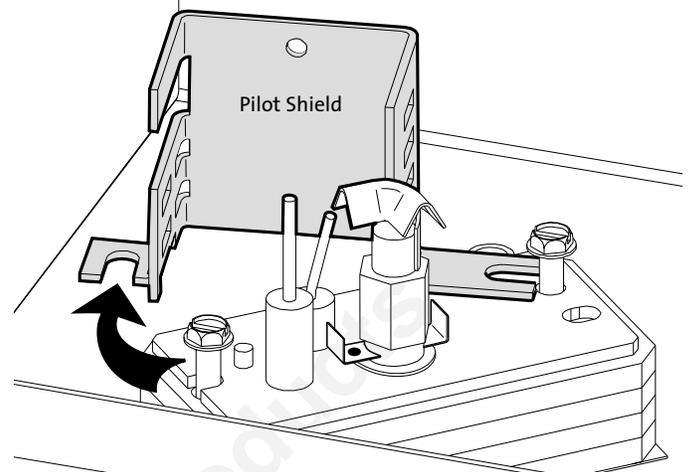

Figure 28. Use a 1/4" socket driver to loosen two screws and pivot the Pilot Shield out of the way.
- a) **Loosen two sheet metal screws to pivot the Pilot Shield out of the way as shown in fig. 28.**